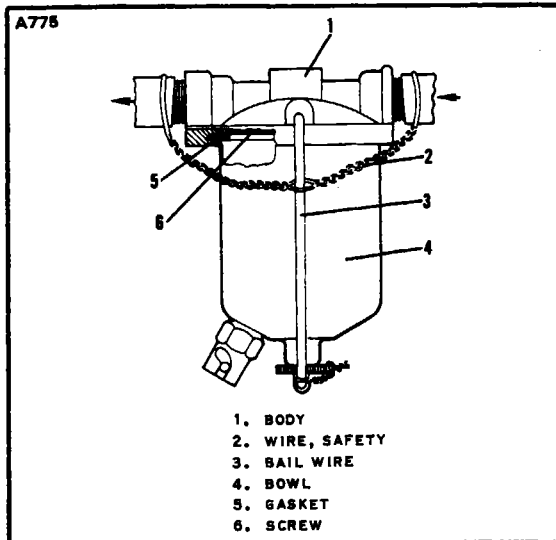

Figure 9-21. Fuel Filter
- 9-58. DISASSEMBLY, INSPECTION AND ASSEMBLY OF FUEL FILTER. (PA-23-250; PA-23-235; and PA-23-250 (six place), Serial Nos. 27-2000 to 27-2504 incl.) (Refer to Figure 9-21.) If the filter assembly has been removed from the airplane, disregard steps a, b and j.